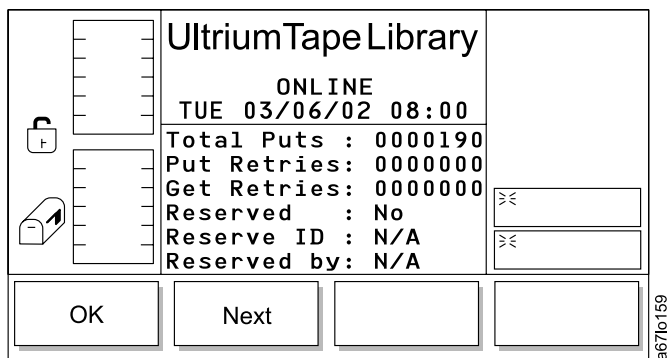

Figure 90. Put/Get Information
- If **Next** is selected, the Put/Get Information Dialog displays (see Figure 90).